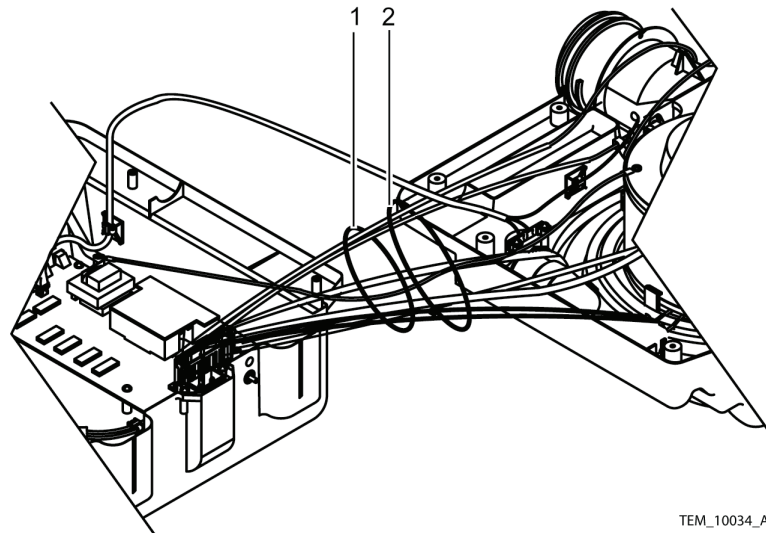

Figure 37. Cable Harness Bundle Ties
13. Install the cable harness bundle ties. See Figure 37, item 1.